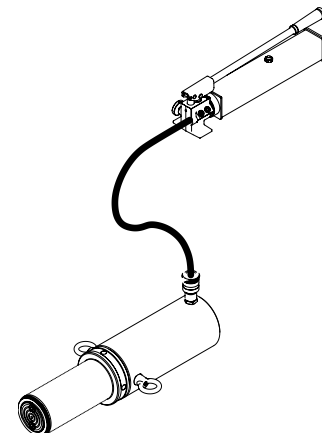

Figure 2 - Illustration to bleed air from system
1. Place pump at a higher elevation than the hose and cylinder as shown in Figure 2.
| Erratic action                                                                | <ul style="list-style-type: none"> <li>• Air in system or pump cavitation.</li> <li>• External leakage in cylinder.</li> <li>• Cylinder sticking or binding.</li> </ul>                                                                                            | <ul style="list-style-type: none"> <li>• Vent the system (refer to figure 2).</li> <li>• Contact service center.</li> <li>• Contact service center.</li> </ul>                                                                                                                                                                                                                          |
| Poor performance                                                              | <ul style="list-style-type: none"> <li>• Oil level in pump is low.</li> <li>• Air trapped in system.</li> </ul>                                                                                                                                                    | <ul style="list-style-type: none"> <li>• Ensure proper oil level.</li> <li>• Vent the system (refer to figure 2).</li> </ul>                                                                                                                                                                                                                                                            |